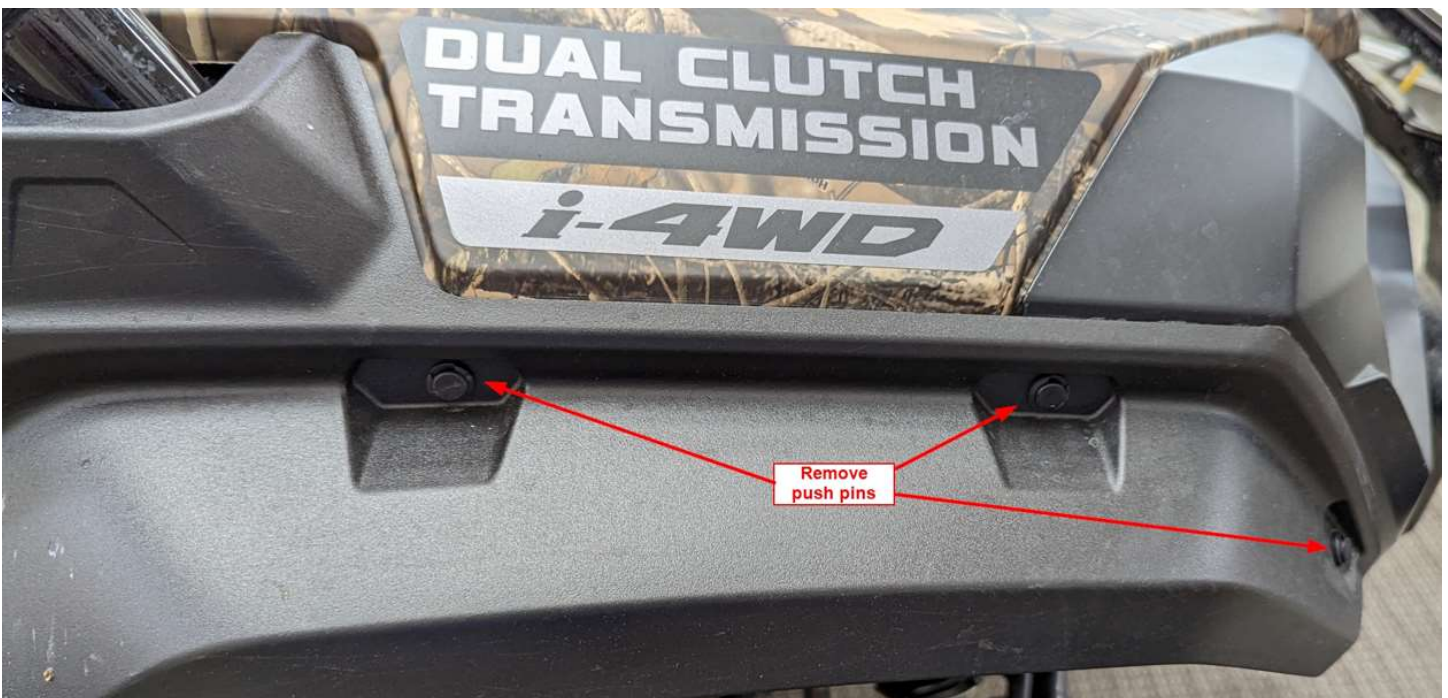

Figure 2
- d. On either side of the front fenders remove the push pins as shown in Figure 2.